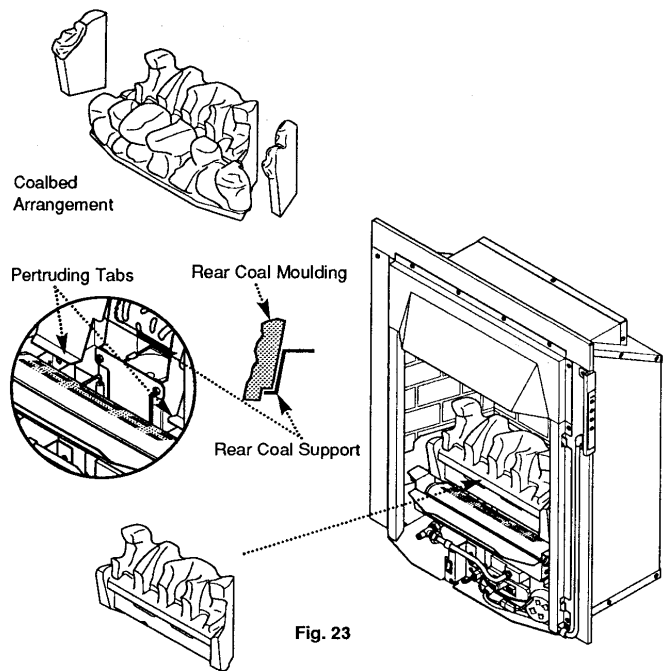

Fig. 23
1. Carefully position the rear coal moulding into the rear of the fire. The undercut in the base of the moulding should rest on the protruding tabs of the rear coal support. The back face of the moulding should come to rest on the front face of the rear coal support and shall be centrally positioned (Fig. 23). Care should be taken that the rear coal moulding does not fall forward at this stage.